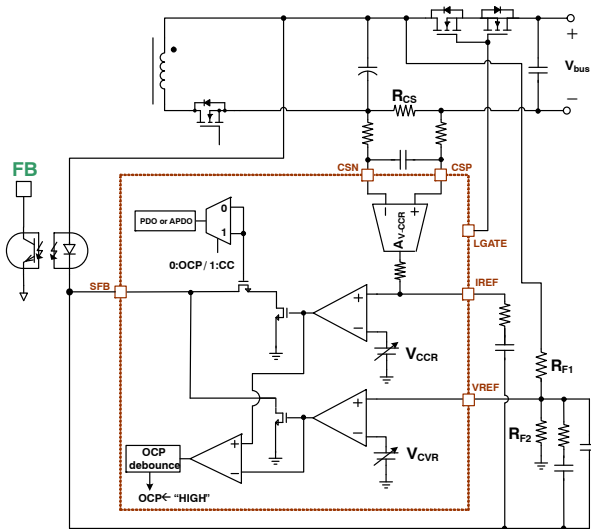
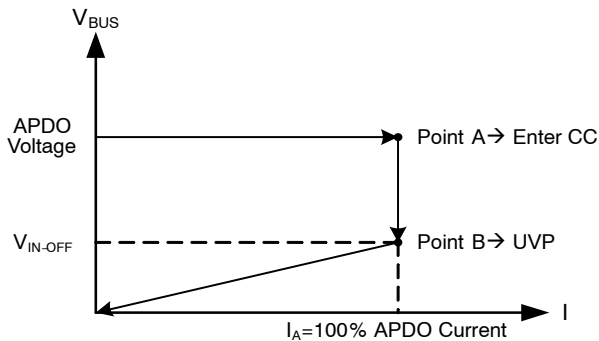

Figure 29. Voltage and Current Sensing Circuits
Figure 30. APDO CC Operation
In order to regulate adaptive output voltages, the constant voltage control (CV) is implemented. The output voltage is sensed through an external resistor divider. The sensed output voltage is connected to the VREF pin, and it is input the non-inverting input terminal of the internal operational amplifier. The inverting input terminal is connected to the internal voltage reference (V_{CVR}) which can be adjusted according to the requested output voltage. The amplifier and an internal switch operate as a shunt regulator, and the output of the shunt regulator is connected to the external opto-coupler via SFB pin. To compensate output voltage regulation, typically, two capacitors and one resistor are connected between SFB and VREF pins as Figure 29. The output voltage can be derived as calculated by the Equation 1, and the ratio of the resistor divider is 10. The reference (V_{CVR}) for the output voltage is generated by a 10-bit DAC. The minimum resolution is 20 mV to meet PD3.0 compliance spec.
Constant current (CC) control is enabled during USB PD contracts. When CC mode is enabled, the supply will foldback the output voltage as the load increases in order to maintain a fixed output current as shown in Figure 30. Output current is sensed via a current-sense resistor R_{CS} , which is connected between the CSP and CSN pins. The sensed signal is internally amplified, and this amplified voltage is connected to the non-inverting input of the internal operational amplifier. Similar to the constant voltage amplifier circuit, it also plays a role as a shunt regulator to regulate the constant output current. In order to compensate output current regulation, one capacitor and one resistor are connected between the IREF and SFB pins as shown in Figure 29. The constant output current can be calculated using Equation 2. $5m\Omega$ is typically used for the sense resistor.